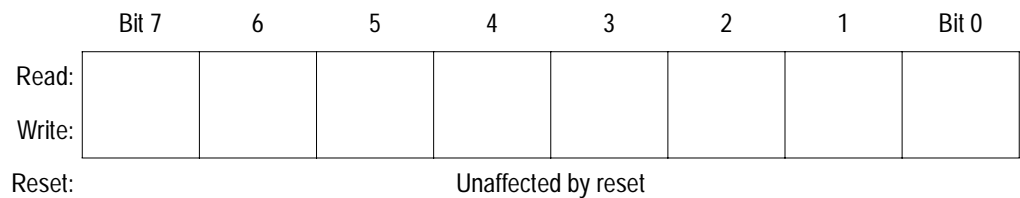

Figure 3-3. Index Register (X)
In the indexed addressing modes, the CPU uses the byte in the index register (X) shown in **Figure 3-3** to determine the conditional address of the operand. See **12.3.5 Indexed, No Offset**, **12.3.6 Indexed, 8-Bit Offset**, and **12.3.7 Indexed, 16-Bit Offset** for more information on indexed addressing.